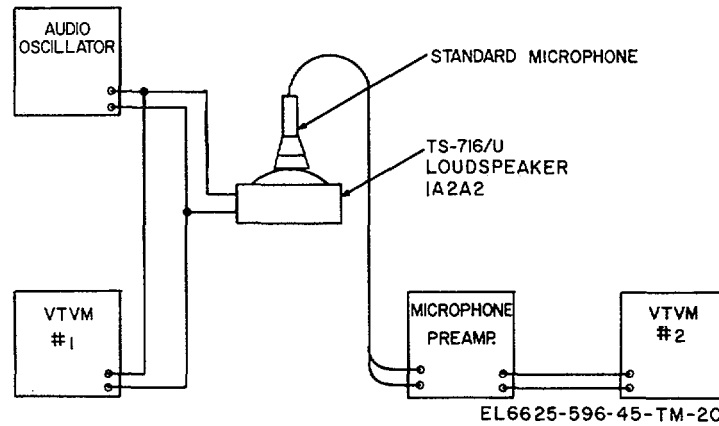

Figure 6-4. Hand generator test setup.
- a. Connect equipment as shown in figure 6-4.